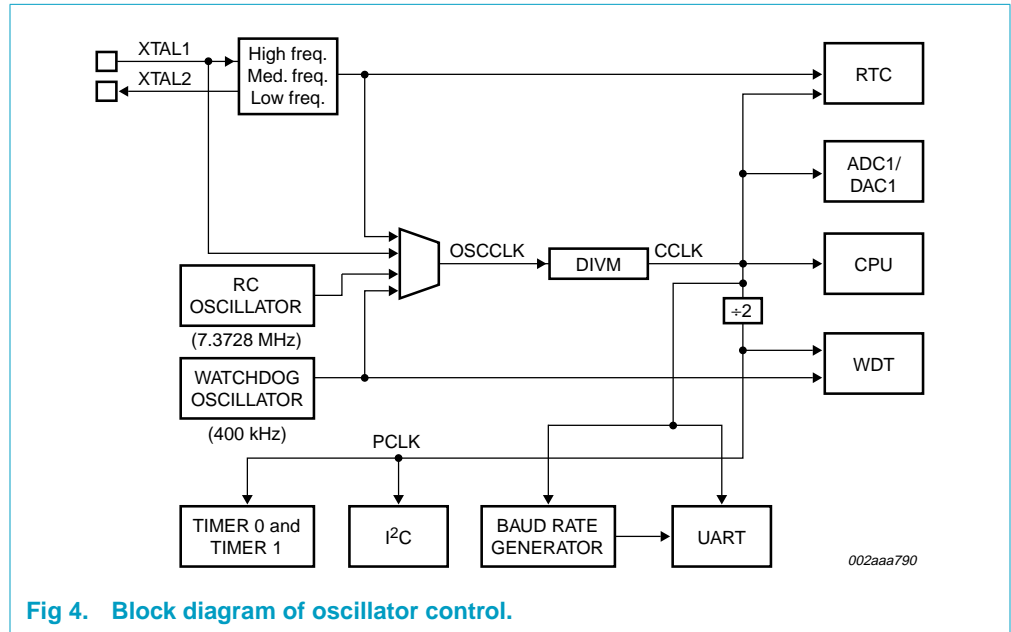

Fig 4. Block diagram of oscillator control.
**OSCCLK** — Input to the DIVM clock divider. OSCCLK is selected from one of four clock sources (see Figure 4) and can also be optionally divided to a slower frequency (see Section 8.7 “CPU Clock \(CCLK\) modification: DIVM register”).